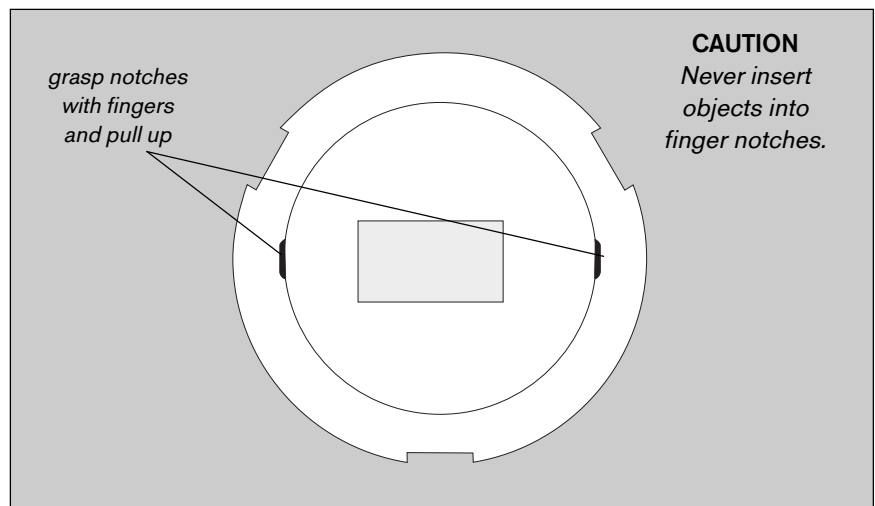

Figure 2: Pulling out the bezel
Polytron FX is a three-wire device powered by 16 to 30 V DC. Wiring terminals are located on the back of the PCB; pull out the bezel, by grasping the notches on either side of the display with your fingers and pulling up (Figure 2).
- Remove the main PCB, which is attached to the bezel, by grasping the notches on either side of the display with your fingers and pulling up (Figure 2).